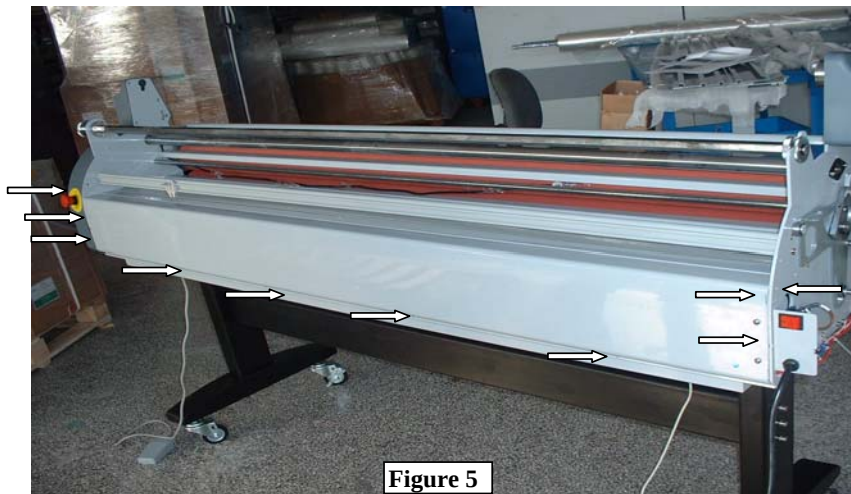

Figure 5
2. Take out the side screws - one on each side. Figure 5
3. Loosen eight Rear Cover screws. Figure 5